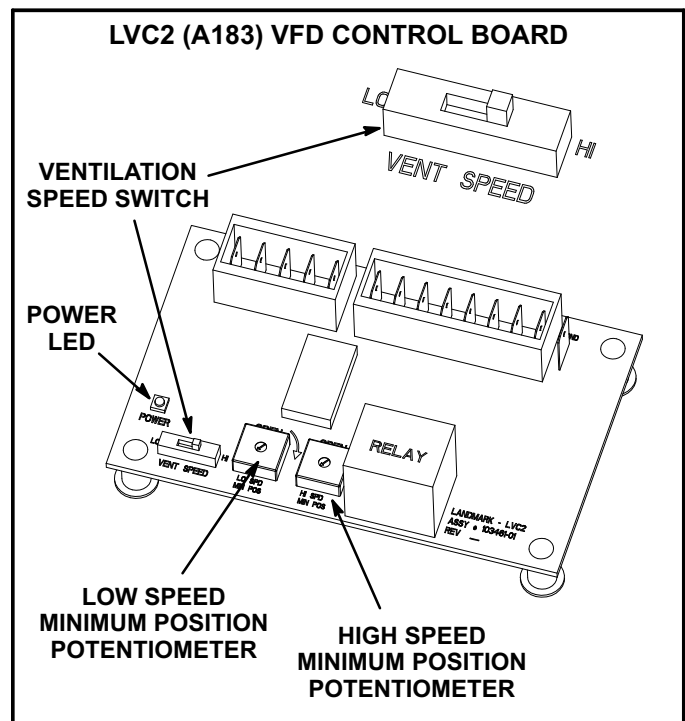

FIGURE 40
To save energy during ventilation, the blower speed can be set to low. This is accomplished by changing the ventilation speed switch on the VFD control board to “LO”. See figure 40.
To maintain required minimum ventilation air volumes when the unit is in the occupied mode, two minimum damper positions must be set. A high and a low speed potentiometer are provided on the VFD control board to adjust minimum damper position. See figure 40.
- 5- Check the power LED on the board. See figure 40.